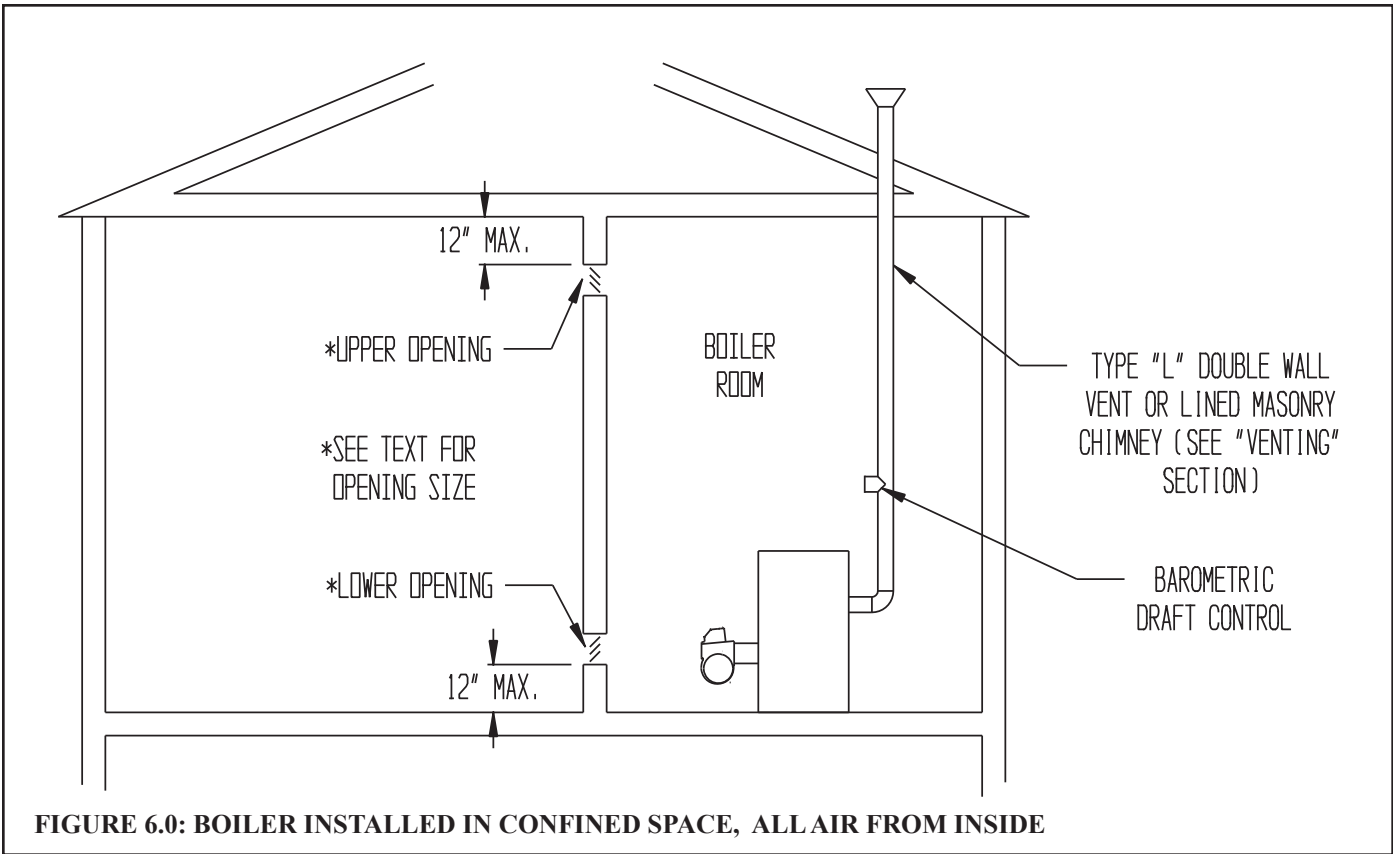

FIGURE 6.0: BOILER INSTALLED IN CONFINED SPACE, ALL AIR FROM INSIDE
- 3) Confined Space - Provide two openings into the boiler room, one near the floor and one near the ceiling. The top edge of the upper opening must be within 12" of the ceiling and the bottom edge of the lower opening must be within 12" of the floor (Figure 6.0).